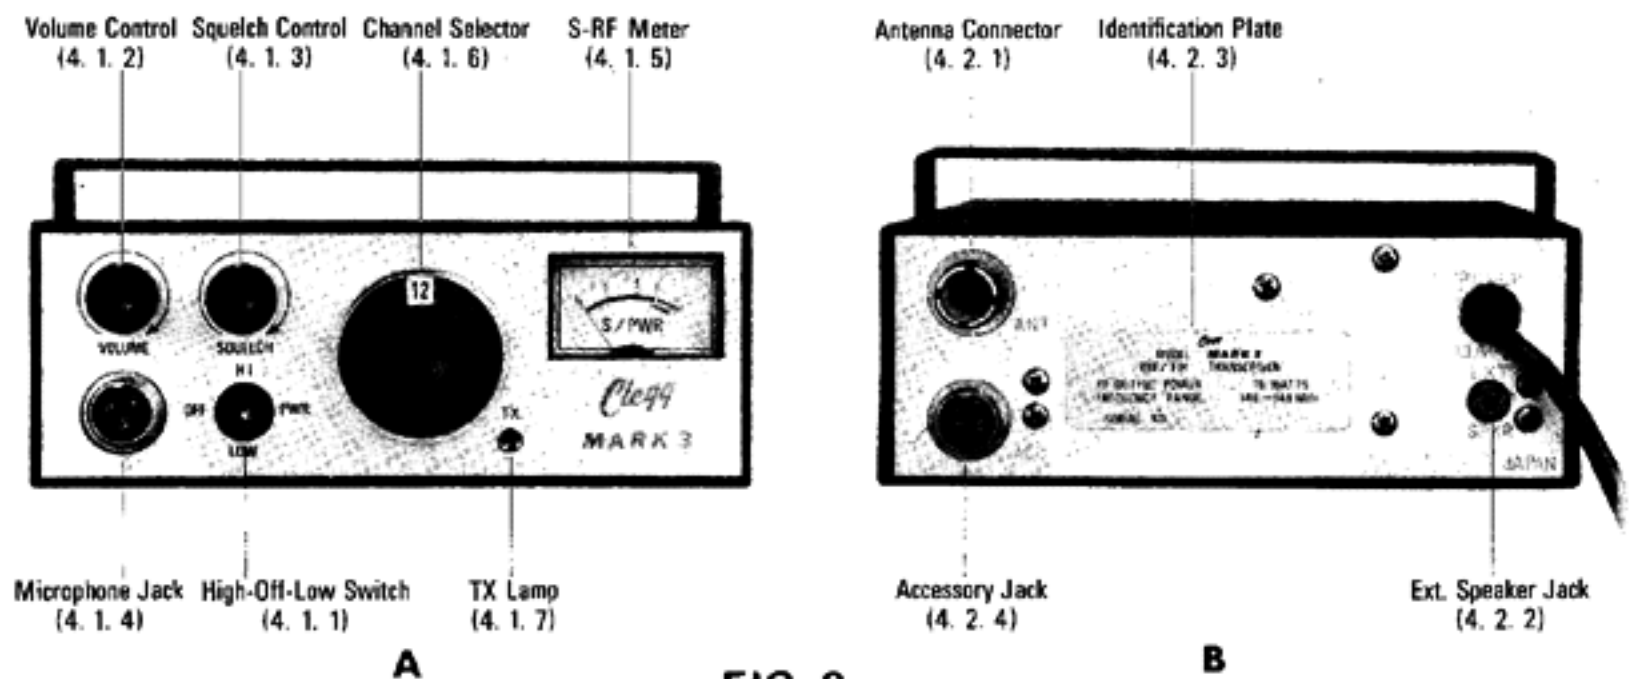

FIG. 2
- 4.1 Front control and jack (Fig. 2-A)
- 4.2 Rear Panel (fig. 2-B)